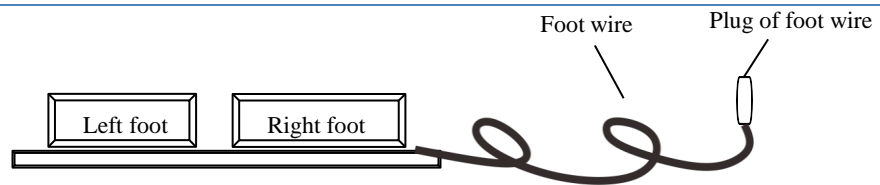

Figure 6 Schematic diagram of foot switch
1) Structure of foot switch is as shown in Figure 6